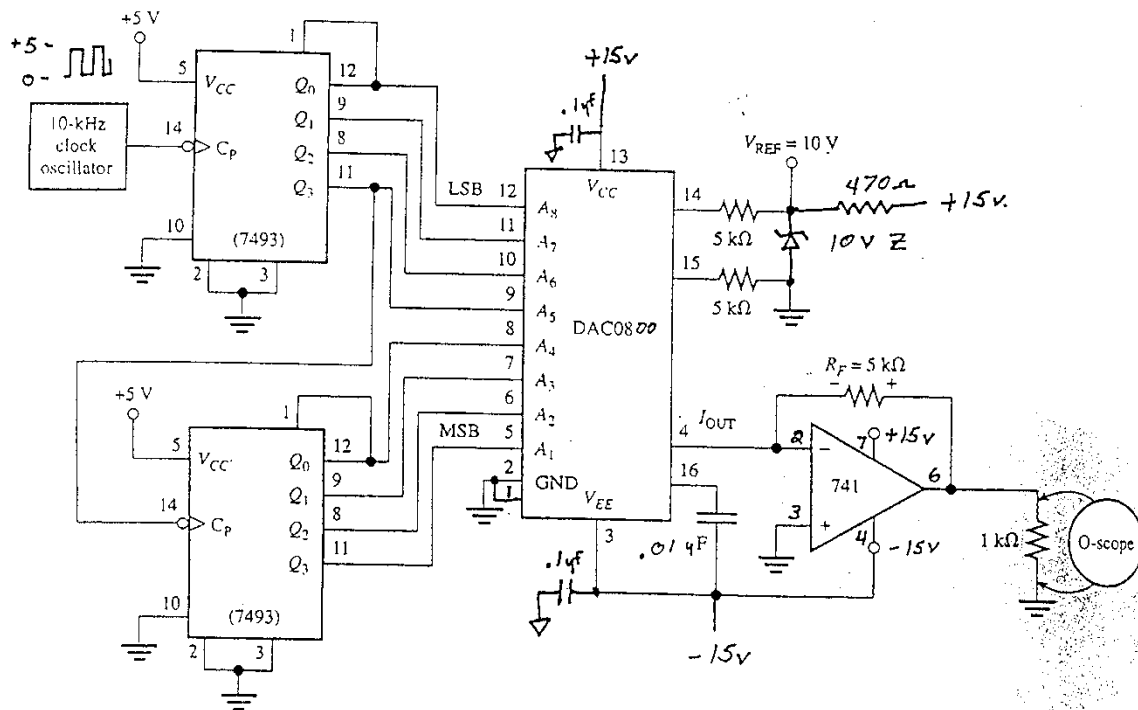

Figure 6
- Assemble the circuit shown in Figure 6.